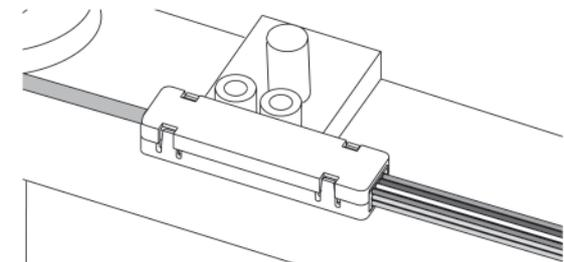

Figure 20
**7.9** Align the top of the BTF body with the bottom and hand press them together until the top snaps into place (Figure 20).